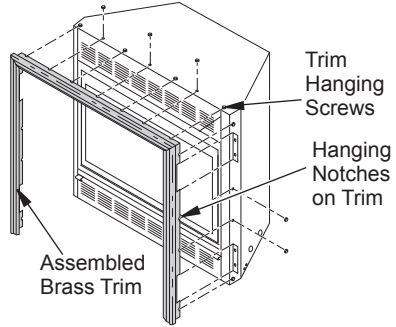

Figure 7 - Attaching Brass Trim to Fireplace
8. Tighten trim hanging screws (#10 x 6.25 shoulder) into holes in cabinets. Place the assembled trim onto fireplace cabinet. Align hanging notches on trim with hanging screws on side of fireplace (see Figure 7). Push trim firmly into place, sliding hanging notches over hanging screws.
15. Install brass trim after final finishing and/or painting of wall (see Figure 7, page 9).